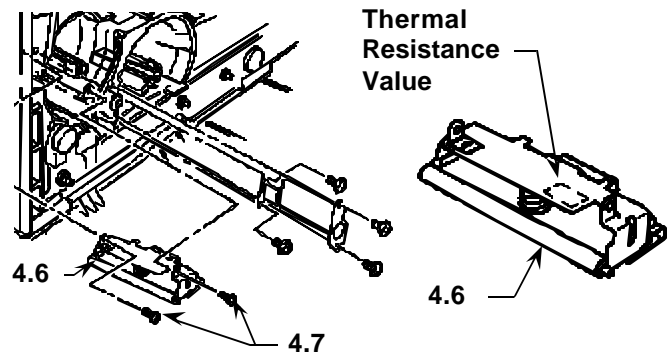

Fig. 4
5. Disconnect the Thermal Print Head Cable Assembly [3.5] from the Thermal Print Head Assembly [4.6] (see Fig.4)